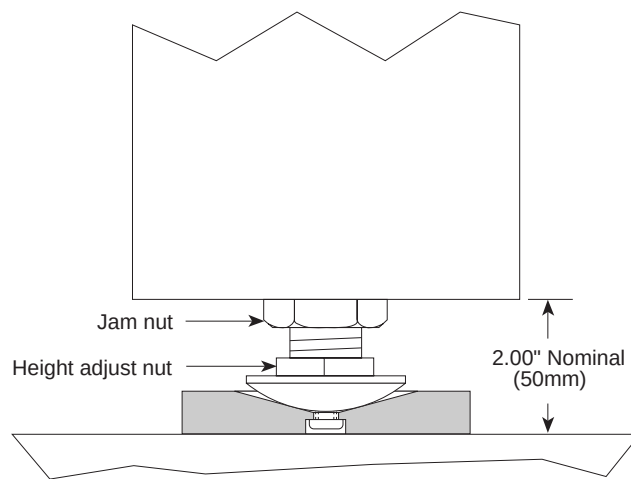

Figure 2.1 — Leveling Pad Adjustment
Adjust the leveling pads on the bottoms of the legs as shown in figure 2.1. Rotate the pads until approximately $\frac{3}{8}$ inch (9 mm) of thread remains outside the leg and jam nut.
2.3.1 For three isolator systems, release the shipping locks. Adjust the four frame leveling pads (figure 2.1) until the table top is as level as can be determined with the bubble level. Ensure that the frame does not rock and that all four leveling pads contact the floor approximately equally. Then, tighten the leveling pad jam nuts.